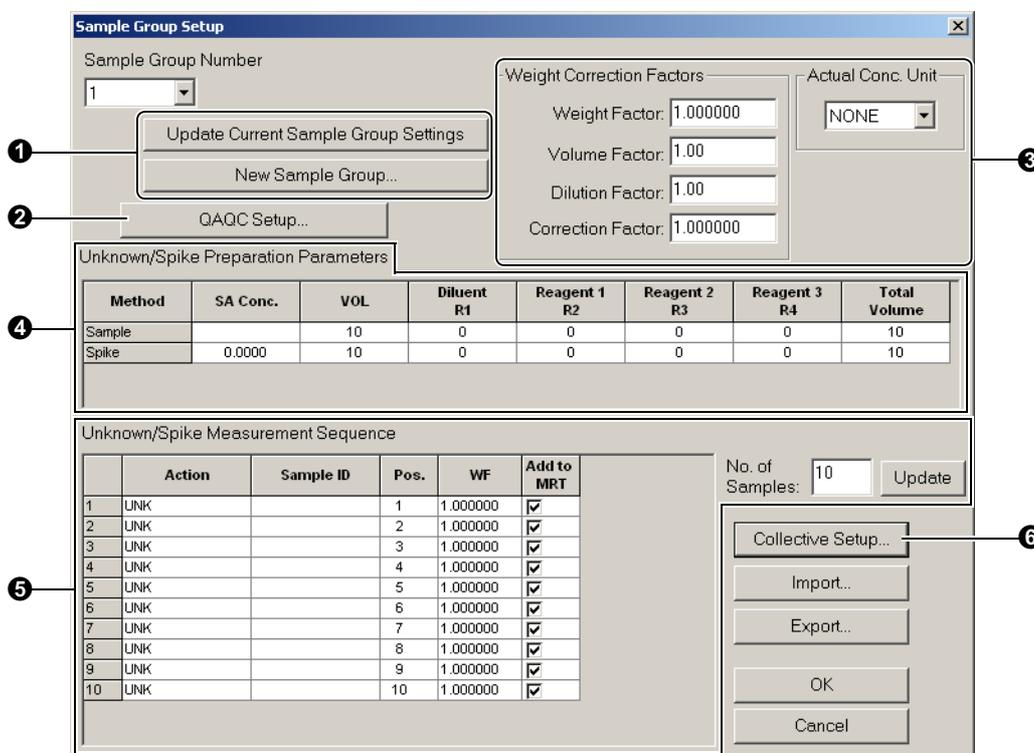

Fig. 3.41 [Sample Group Setup] Page
- 6 If you click on the [Collective Setup] button on the [Sample Group Setup] page of Fig. 3.41, the [Sample ID Collective Setup] dialog box will be displayed.